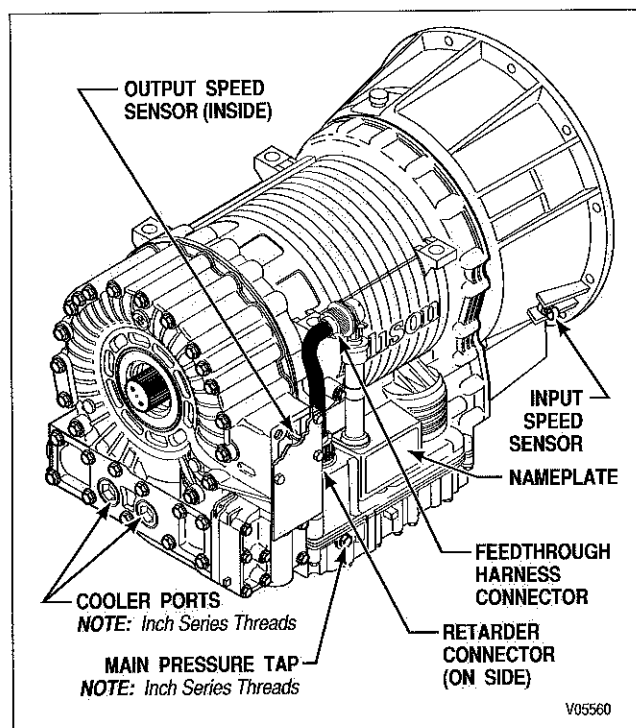

Figure 3-5. Disconnect Locations
### 3-7. REMOVING (OR INSTALLING) TRANSMISSION (Figures 3-5, 3-6, 3-7, 3-8)
1. For non-retarder models, disconnect the transmission external harness from the feedthrough harness connector, the input speed sensor, the output speed sensor, and the PTO connector, if present (see Figure 3-5). Disconnect the tachograph drive, if used.
2. For retarder models prior to 1/98, disconnect the transmission external harness from the feedthrough harness connector, the input speed sensor, the retarder connector, and the PTO connector, if present (see Figure 3-5). Cover the harness connectors to keep out dirt.